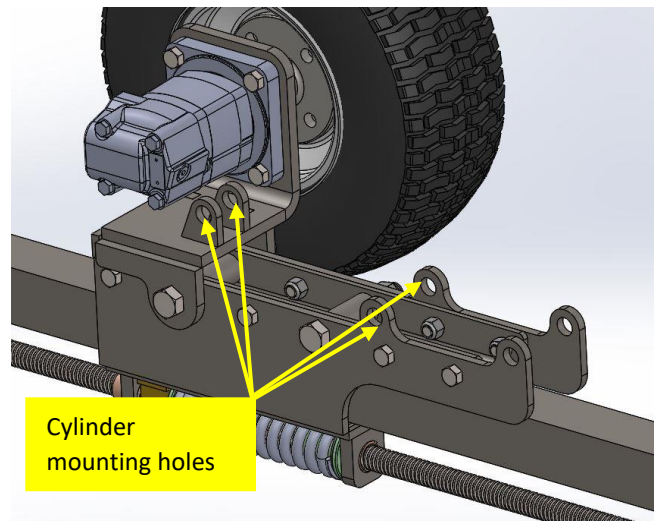

Figure 15
14. Locate the hydraulic cylinder mounting holes on the **HydraWinder**. **Figure 15**